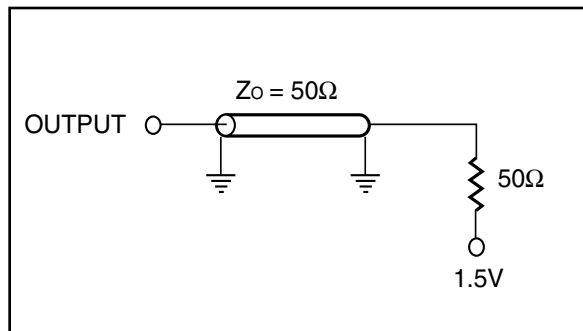

Figure 1
1. Test conditions assume signal transition times of 2 ns or less, timing reference levels of 1.5V, input pulse levels of 0 to 3.0V and output loading specified in Figure 1.
1. Test conditions assume signal transition times of 1.5 ns or less, timing reference levels of $V_{DD}/2$, input pulse levels of 0.4v to $V_{DD}-0.3V$ and output loading specified in Figure 1.